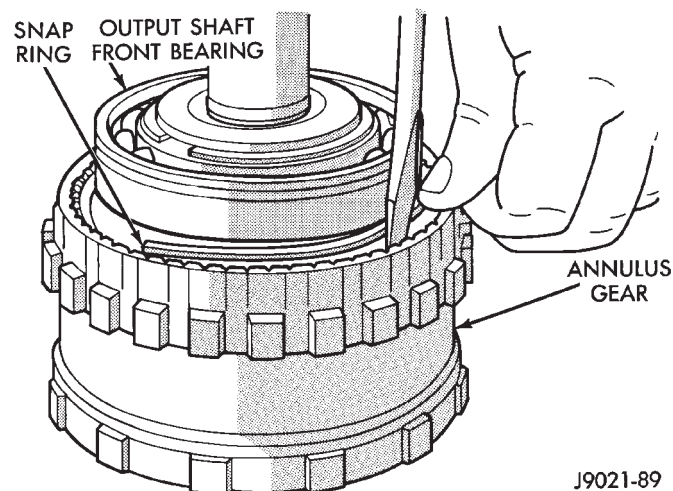

Fig. 327 Installing Annulus Gear And Snap Ring
(1) Soak direct clutch and overdrive clutch discs in Mopar ATF Plus before installation. Also lubricate geartrain components with ATF Plus during reassembly.
(2) Install new pilot bushing and clutch hub bushing in output shaft if necessary (Fig. 327). Lubricate new (or old) bushings with petroleum jelly.
(3) Install front bearing and bearing snap ring on output shaft (Fig. 327).
(4) Align and install annulus gear on output shaft (Fig. 327).
(5) Install annulus snap ring (Fig. 327).